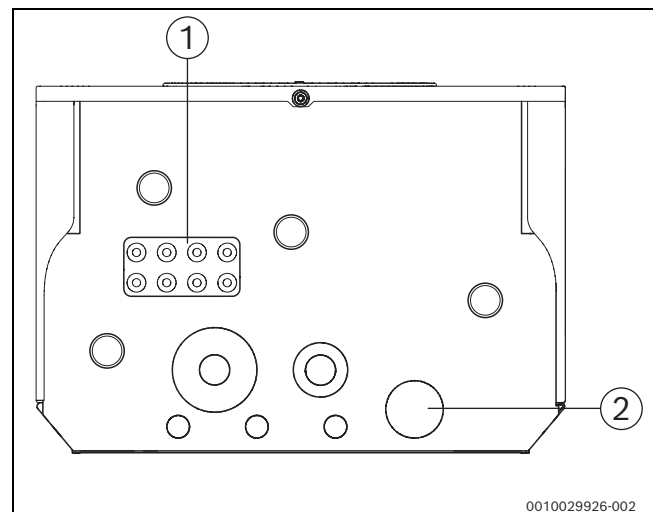

Fig. 26 Cable feeds
- ▶ Route the control cable of type H05V2V2 F, 2x0.75 mm² [4] from the external booster heater through a free cable feed in the bottom panel (→ Fig. 26) to terminal [2].